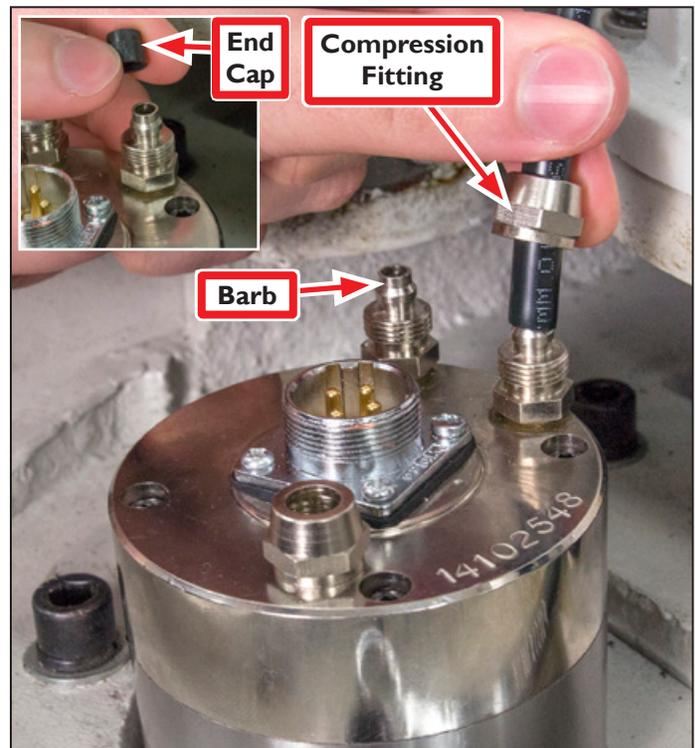

Figure 20
- Using an M14 wrench, remove one Compression Fitting from top of High-speed Spindle (see **Figure 20**).
- Remove plastic End Cap on Barb under Compression Fitting (see **Figure 20 inset**).